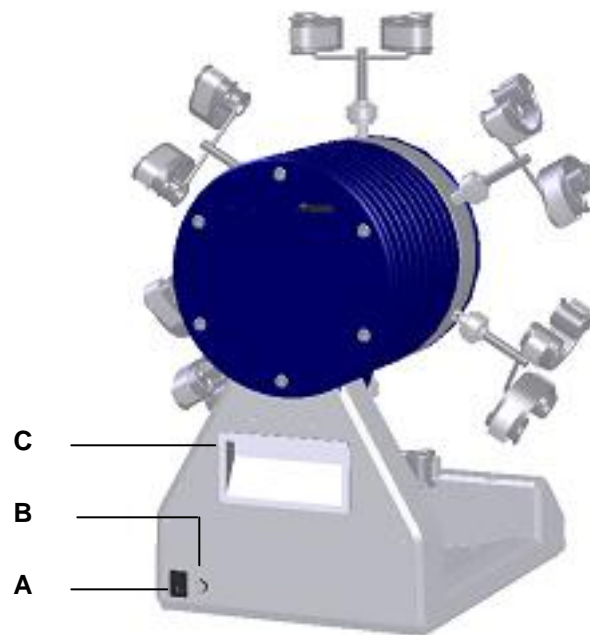
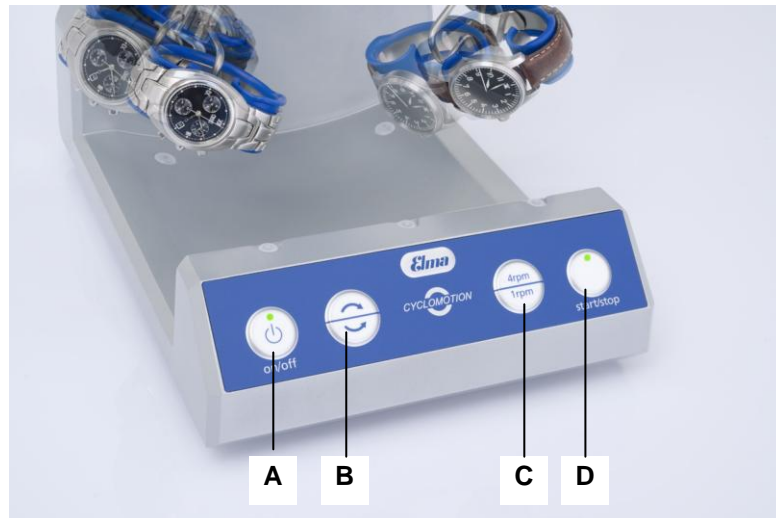

Fig. 3.8. Rear view
Fig. 3.9. Operating panel
Plug the delivered power supply unit into an earthed socket and connect the cable to the DC socket on the unit rear (see fig. 3.8.B).
2. To mount a clip with fixed watches or clockworks to the spindle head, turn the spindle head so that the empty clip support is at the top. There are two ways to do this: Put the main switch on the unit rear (see *fig.3.8.A*) in position **I** to switch it on and press the **on/off key** (*fig. 3.9.A*). Press the **start/stop key** (*fig. 3.9.D*) to start the Cyclomotion, let the spindle head move into the required position and press the **start/stop** key again to stop the Cyclomotion.
4. Put the main switch on the unit rear (see *fig. 3.8.A*) in position **I** to switch it on.
The unit is correctly connected to the mains as described in *Section 4.2.*; the main switch (see *fig. 3.8.A*) is switched on (standby mode). The **on/off** button (*fig. 3.9.A*) is lighted red.
Switch on the unit at the ON/OFF button (*fig. 3.9.A*) to activate the operating panel.
Press the **start/stop** button (*fig. 3.9.D*). Now, the **on/off** button is lighted green (*fig. 3.9.A*). The unit starts the winding process.
4 rpm: Press the top button for setting the speed of rotation (*fig. 3.9.C*). 4 rpm is the pre-set speed on the delivered unit.
1 rpm: Press the bottom button for setting the speed of rotation (*fig. 3.9.C*).
Right-hand rotation: Press the top button for setting the sense of rotation (*fig. 3.9.B*). Right-hand rotation is pre-set on the delivered unit.
Left-hand rotation: Press the bottom button for setting the sense of rotation (*fig. 3.9.B*).